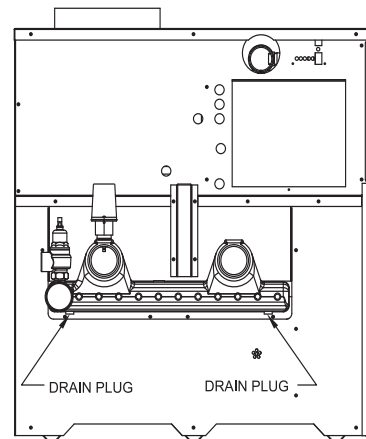

Figure 3 - Draining Unit
4. Drain the unit completely. Remove one threaded plug or bulbwell from the inlet side of the front header and one from the outlet side of the front header on the heat exchanger. Blow all water out of the heat exchanger (see Figure 3).